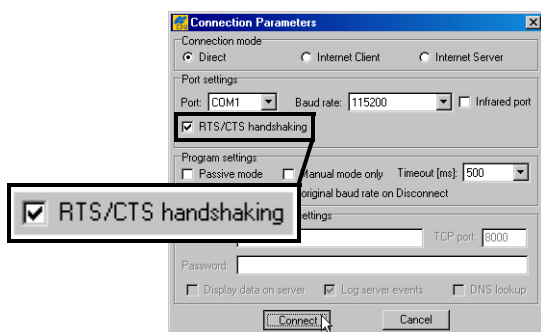

Figure 5-13. Connection Parameters – RTS/CTS Handshaking
2. On the *Connection Parameters* dialog box, enable *RTS/CTS handshaking* (Figure 5-13).